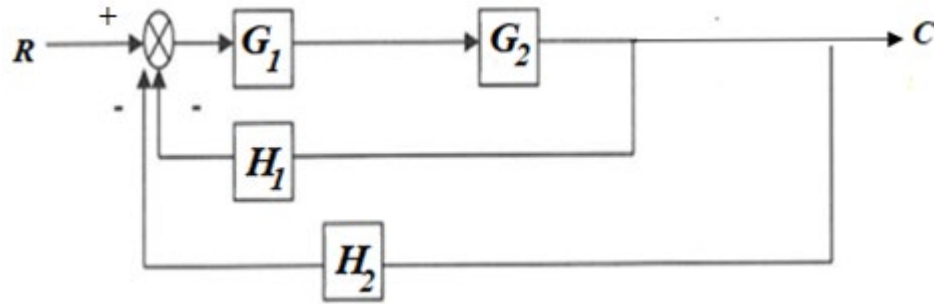

Figure 2(b) / Rajah 2(b)
- CLO1 (b) Consider the multi-loop system as shown in Figure 2(b). Obtain the closed-loop transfer function, C/R.